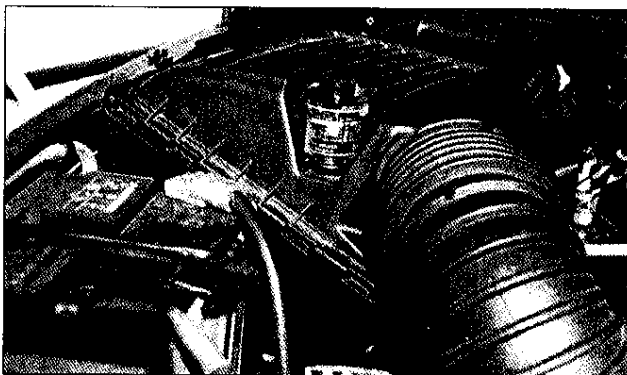

Fig. 2
- b. Remove the air filter housing and duct hose as an assembly (Fig. 2). Gently lift air filter housing from the inner fender. The plastic connectors will remain in the air filter housing and the steel mounting studs will remain in the inner fender.